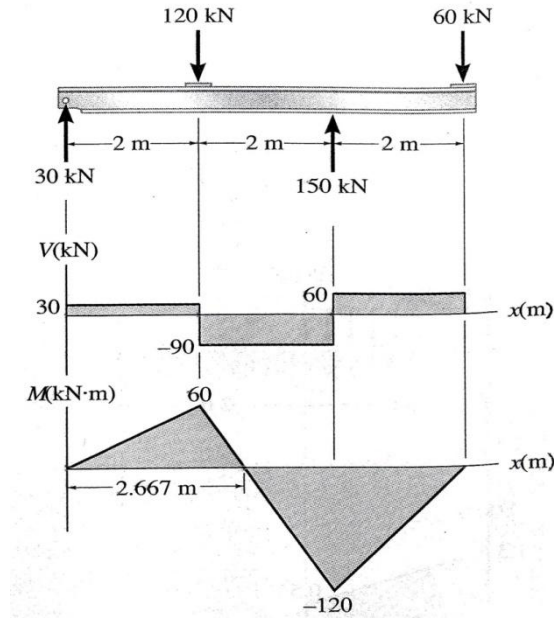

Figure 6
4. (a) A beam is to be made of steel which has an allowable bending stress of  $\sigma_{\text{allow}} = 170 \text{ MPa}$  and an allowable shear stress of  $\tau_{\text{allow}} = 100 \text{ MPa}$ . Select an appropriate W shape for the beam from Appendix A that will carry the loading shown in Figure 6. The corresponding shear force and bending moment diagrams are also given in Figure 6.